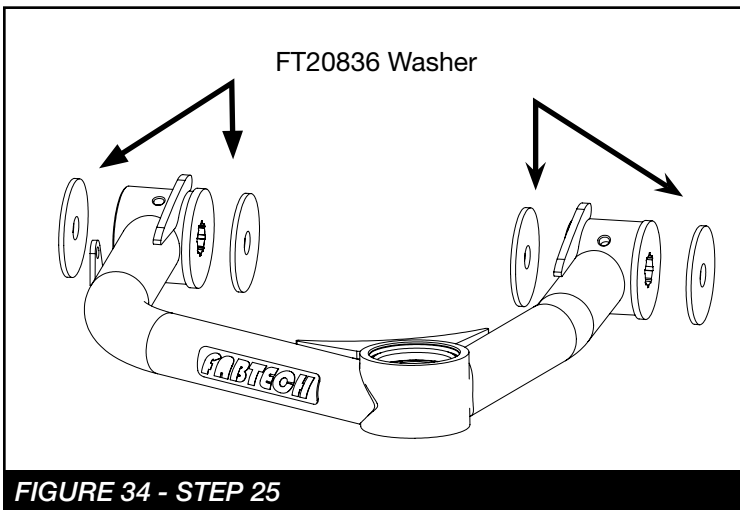

FIGURE 34 - STEP 25
25. Install the FT20868 (Driver) & FT20869 (Pass) upper control arms using the supplied M14 hardware. Install the bolts with the bolt head inside the tower and the threaded end outside. **NOTE: When installing the arms, install a FT20836 (washer) on both sides of the bushings. Do not tighten at this time. Final locktite/ torque procedure will be done at step 34. SEE FIGURE 34**